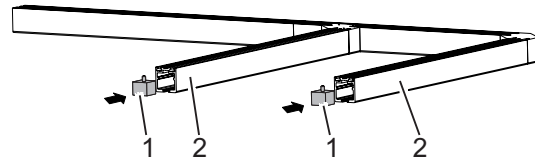

Fig. 8: Mounting the end stop
- ☞ End stops (Fig. 8/1) must be mounted in the stacking area on both ends of the tracks (Fig. 8/2).
5. Insert end stops (Fig. 8/1) into the track (Fig. 8/2).